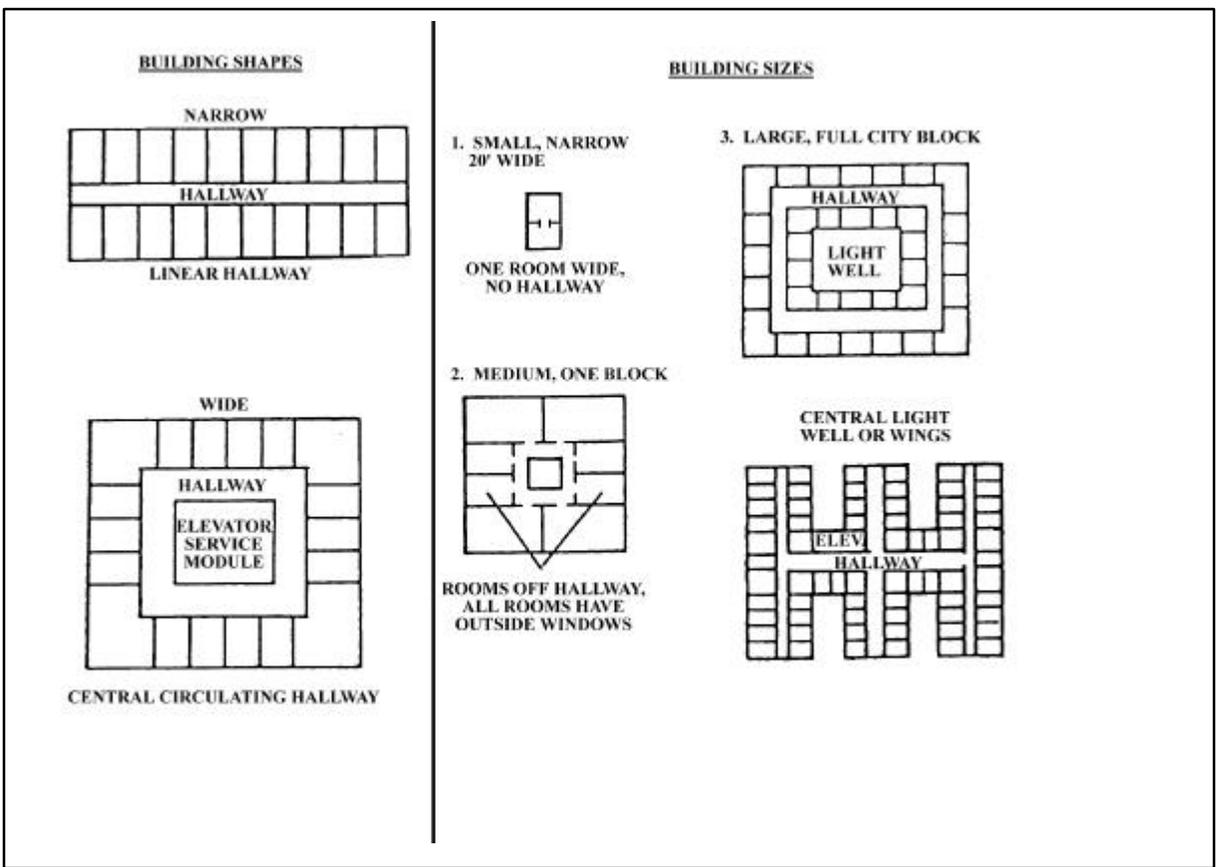

Figure I-17. Building Shapes and Sizes
3. Floor Plans. Floor plans in buildings follow predictable patterns. One of the factors that determines floor plans is building shape (Figure I-17). The basic principle governing building shape is that rooms normally have access to outside light. This principle helps Marines to analyze and determine the floor plans of large buildings.